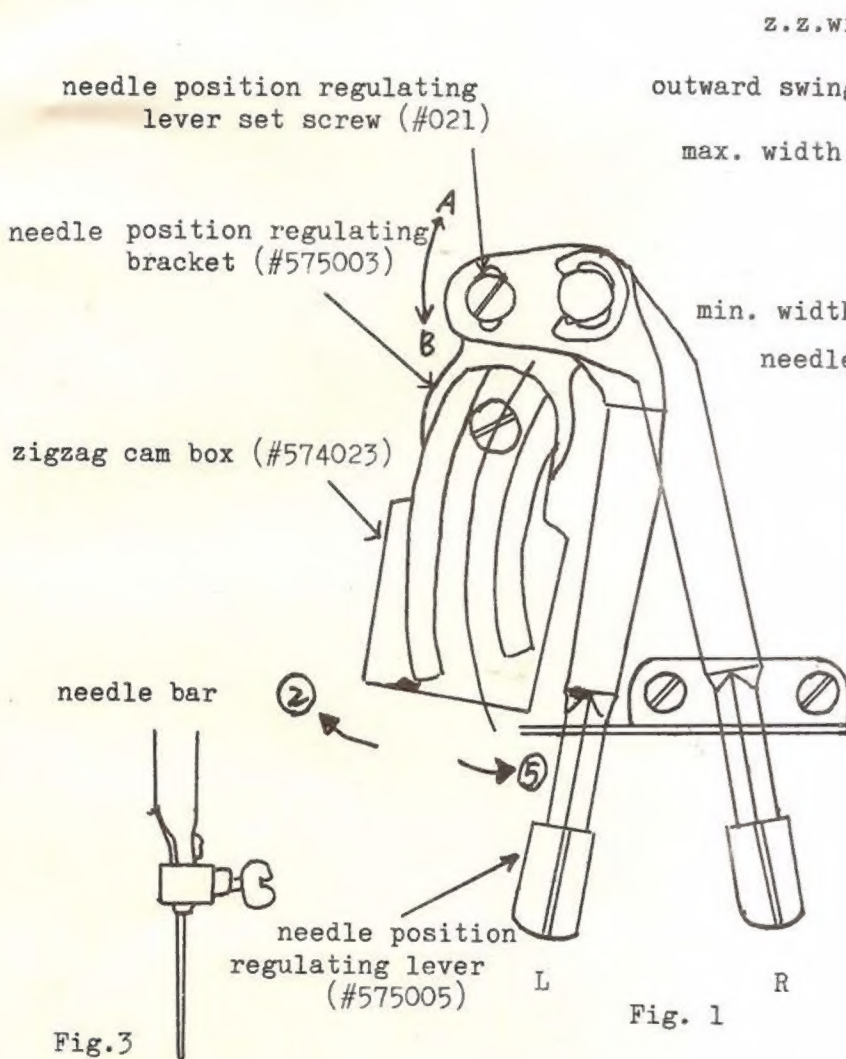
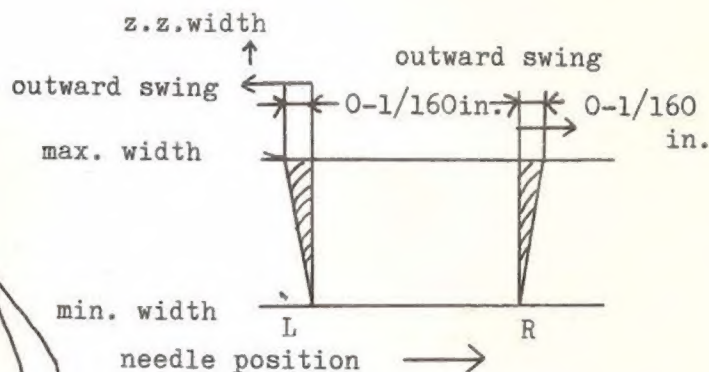

Fig. 1
Fig. 4
1. Set needle position regulating lever at L. (Fig. 1)
4. If needle bar swings inward (to the right, Fig. 4), slightly loosen needle position regulating lever set screw (#021) and slightly push needle position regulating bracket to the direction B. (Fig. 1)
8. If needle swings inward (to the left, Fig. 4), slightly push needle position regulating bracket to the direction A. (Fig. 1).
1. Screw in reverse pin (#65035) into stitch length regulator dial leading screw (#366051) until it protrudes from the other end about 3.5mm as shown in Fig. 1.
Leading screw guide bracket and stitch length regulator dial should be put together at (A) as shown in Fig. 4.
(Fig. 4)